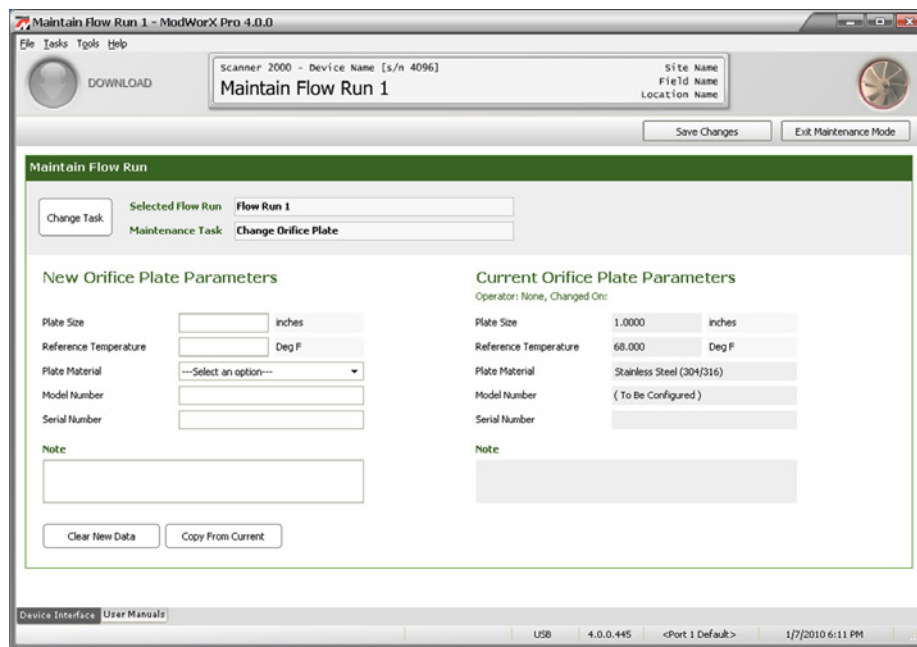

Figure 9.3
- Click **OK** to save the selections. The Maintain Flow Run screen will appear (Figure 9.3, page 129).
1. If Change Orifice Plate is not displayed in the Maintenance Task field at the top of the Maintain Flow Run screen, click on **Change Task** (Figure 9.3, page 129). The Change Flow Run Maintenance Task dialog will appear. The selections available on this screen will vary, depending on the fluid property calculation method selected, as shown in Figure 9.4, page 130.